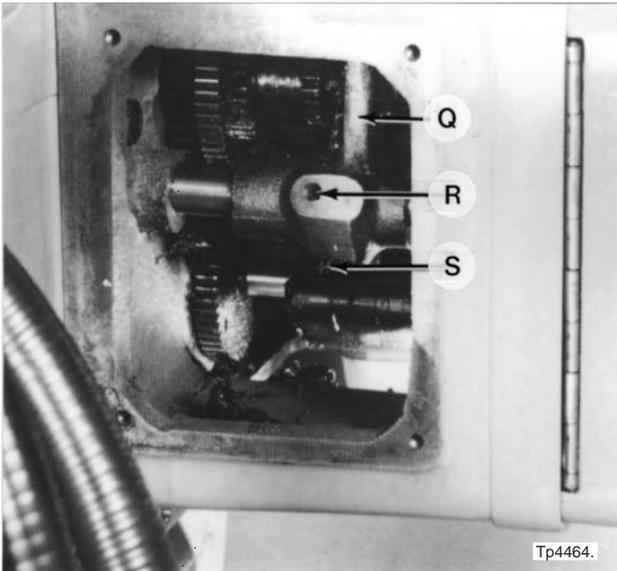
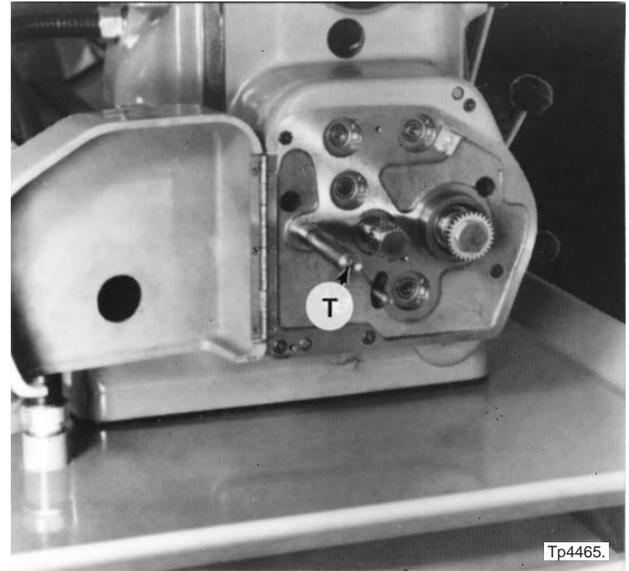

Figure 4.8 - Gearbox Shifter Fork
Figure 4.9 - Shifter Fork Shaft Removal
5. Remove lock screw "R", Figure 4.8, and loosen the set screw under lock screw "R".
7. Unscrew shaft "T", Figure 4.9, with a hex wrench.
8. Remove shaft "T", Figure 4.9, and shifter fork "Q", Figure 4.8